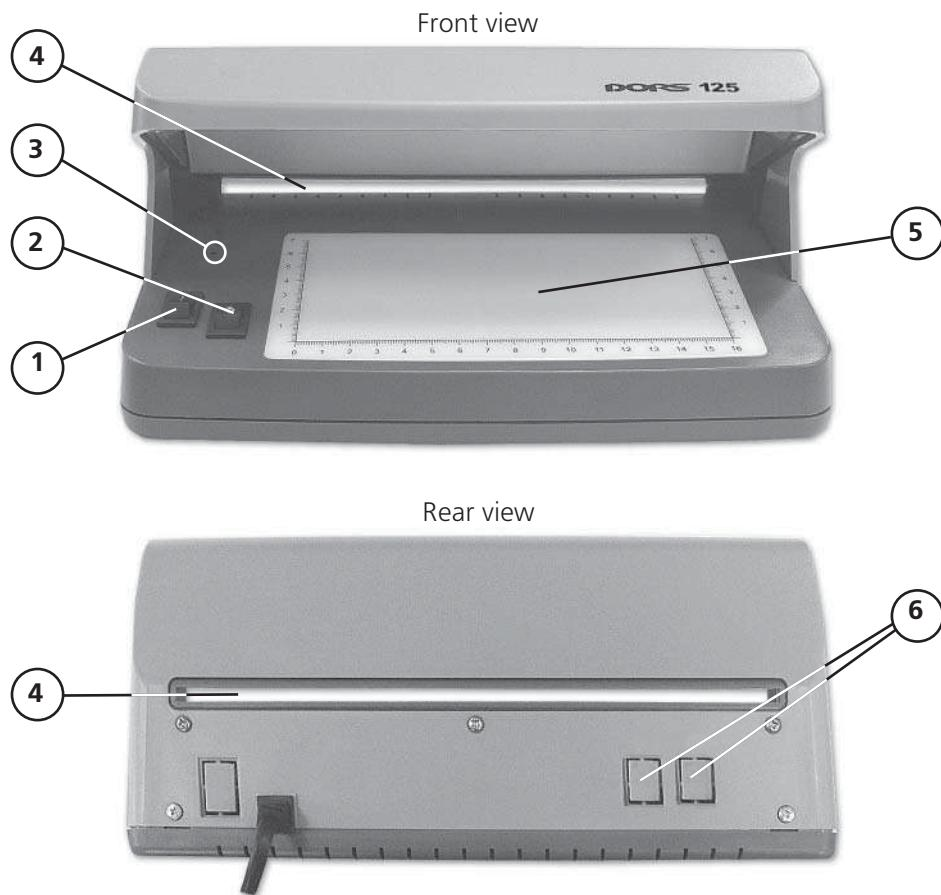
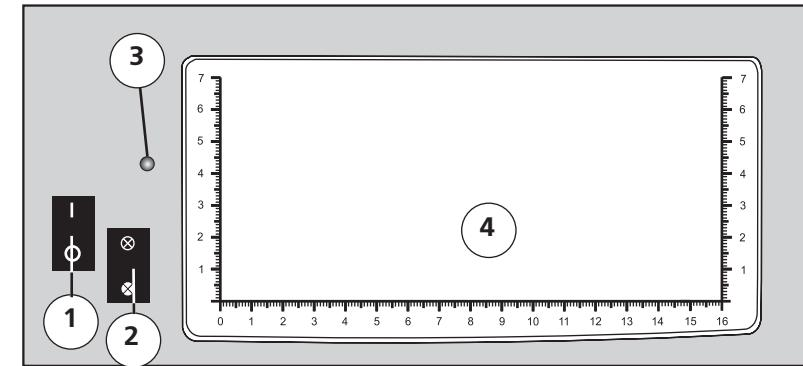

Fig. 1
Fig. 2
1. Connect the detector to the wall outlet (220V, 50 Hz). Power switch indicator (fig. 1, pos. 3) will switch on. Switch the detector on with the Power switch on the back side of the detector (fig. 1, pos. 1) – the viewing zone (fig. 2, pos. 4) lightens blue or white, depending on the switch position "UV/white light".
2. Place one or several banknotes at the front panel of the detector within the viewing zone (fig. 2, pos. 4).
3. Using the UV/white light switch on the front panel (fig. 2, pos. 2) choose necessary operation mode: